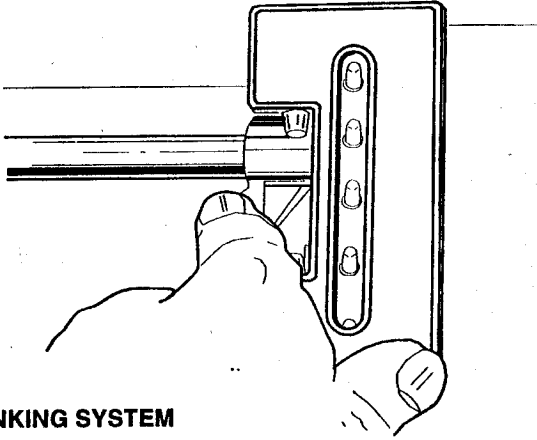

Figure 8
- b. **GENTLY** pull tractor to the left to eliminate any sagging of the forms - - forms must be taut between the tractors. Lock the left tractor in place by pushing down on the locking lever. (See Figure 8).